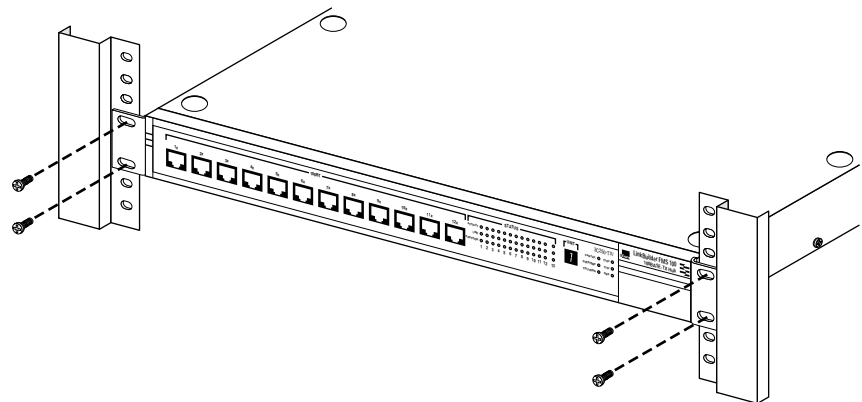

Figure 2-2 Rack Mounting a Single Hub
- 5 Mount the hub in the rack and secure it with suitable screws, as shown in Figure 2-2.